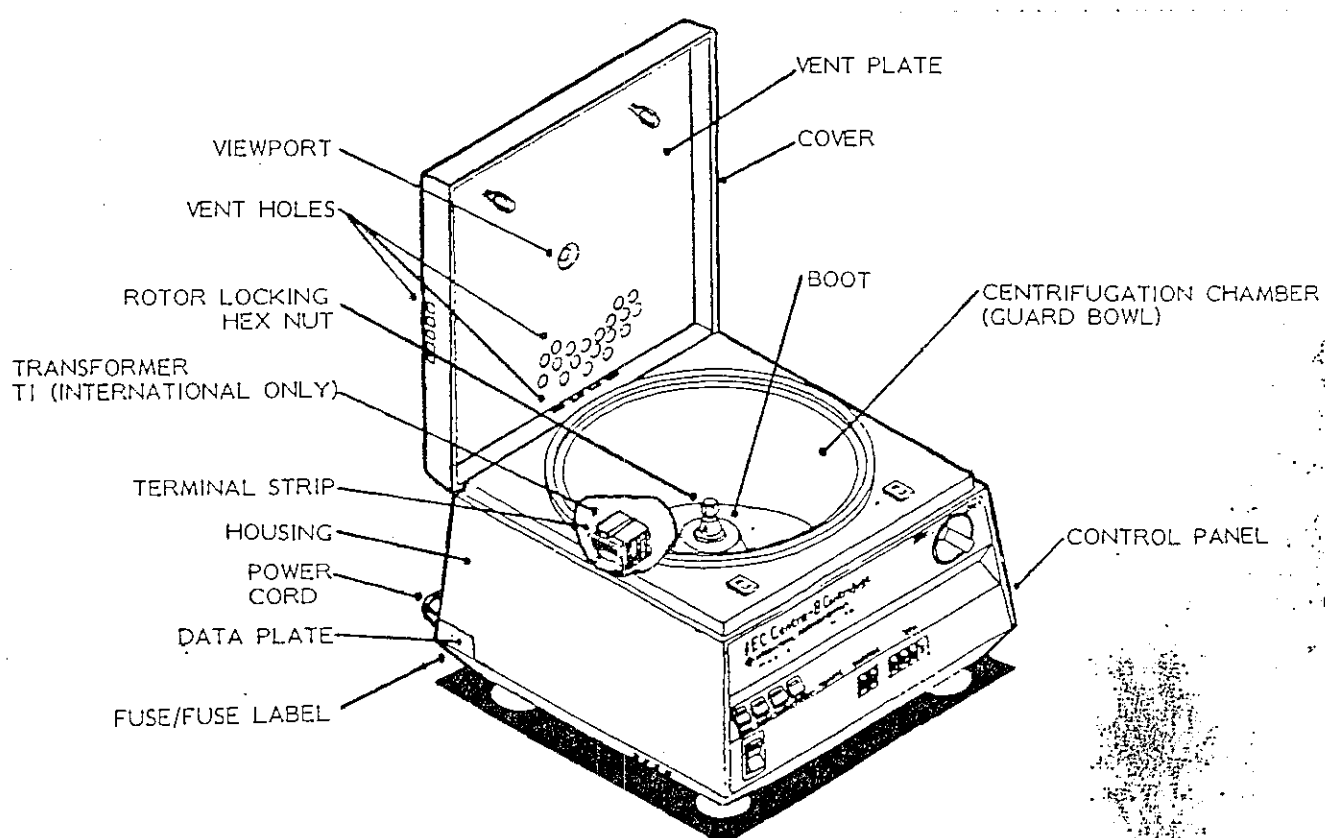

Figure 2-2 Centra-8 Centrifuge
Refer to Figure 2-2
- Locate the auto transformer T1, directly behind the drive motor and shown in Figure 2-2.
- Locate the terminal strip on the top of T1 shown in Figure 2-2.